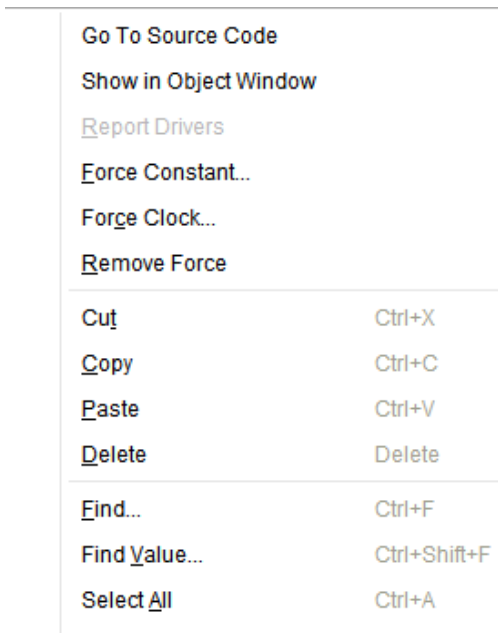

Figure 6-2: Force Options
**Force Constant** and **Force Clock** are options in the Objects or Wave window right-click menu (as shown in Figure 6-2), or in the text editor (source code).